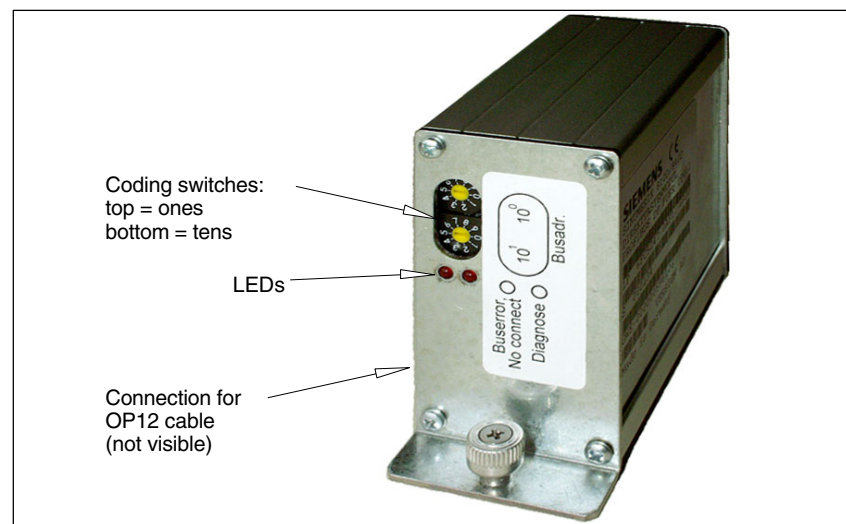

Fig. 11-1 Direct control key submodule complete with coding switches and LEDs
4. Set the PROFIBUS address 01 to 99 with the coding switches on the DKM (see Fig. 11-1; upper/lower coding switch: "Ones"/"Tens").
If the DKM is not connected to PROFIBUS (or in the event of another fault), the “bus error” LED lights up (see Fig. 11-1).
5. Set the PROFIBUS address 01 to 99 with the coding switches on the DKM (see Fig. 11-1).